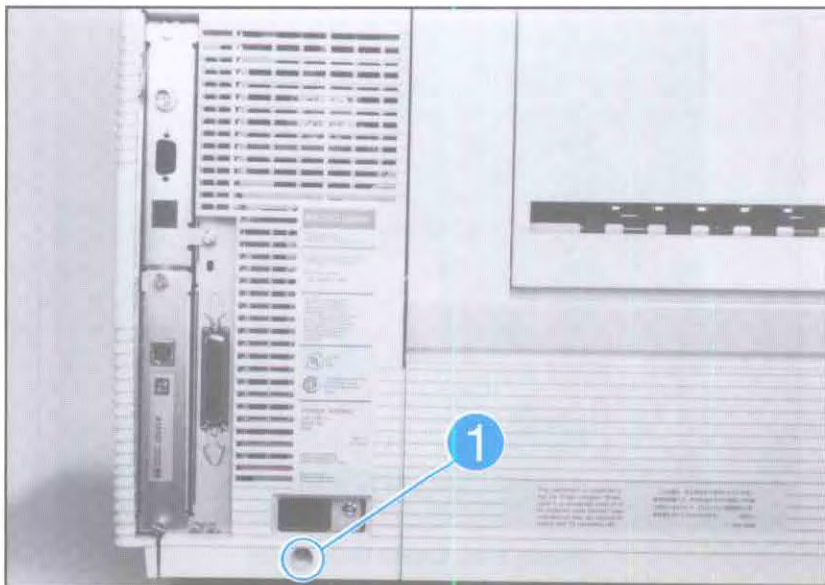

Figure 6-10. Right Rear Cover
1. Remove the (1) screw securing the Right Rear Cover (see Figure 6-10, callout 1).
1. Remove the Right Rear Cover (see Figure 6-10).